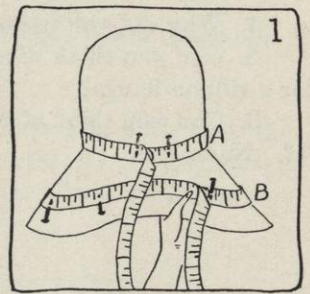

FIG. 1.
- (1) Measure around the part of the hat where you desire to put the fold. See A, Figure 1 for measuring around a crown, and B, Figure 1, for measuring around a brim.
- (2) Write down that measurement.